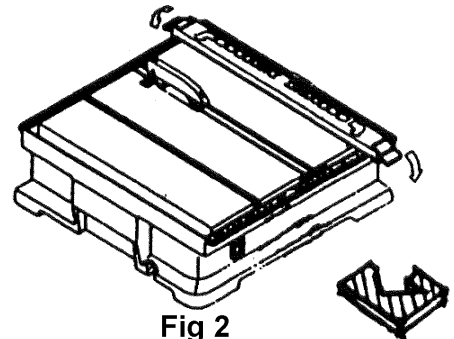

Fig 2
### 4.2. REFER TO Fig 2.
- 4.2.1. Locate the tile guide on the ruler guides at the front and back of the table. Clamp both ends to the table, as shown in Fig 2. The ruler guide is marked off in both inches and centimetres.